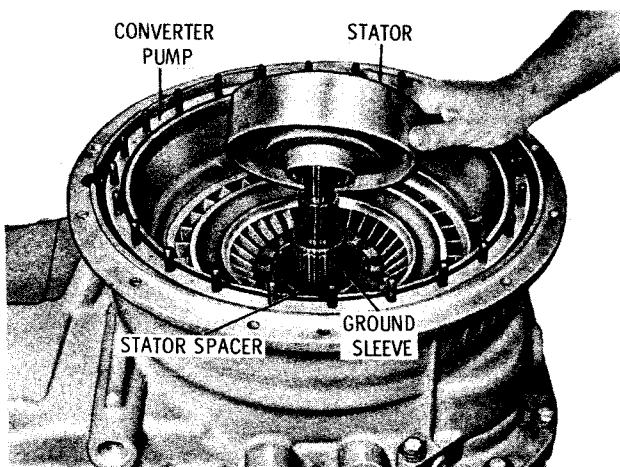

Fig. 7-36. Installing torque converter stator
(2) Install the torque converter pump (as assembled in para 6-7) onto the converter ground sleeve (fig. 7-36). Install the splined, flat stator spacer and stator, hub projection first, onto the ground sleeve.